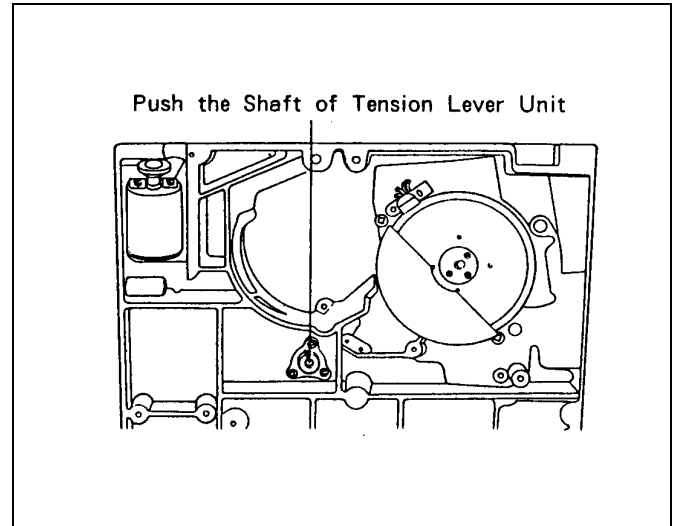

Figure 7-12-3 Tension arm Unit Installation
To install the Tension Arm Unit, pushing shaft (C) from bottom side of the mech. In this case, remove bottom plate and P.C. Boards. Chassis shown in figure 7-12-3.